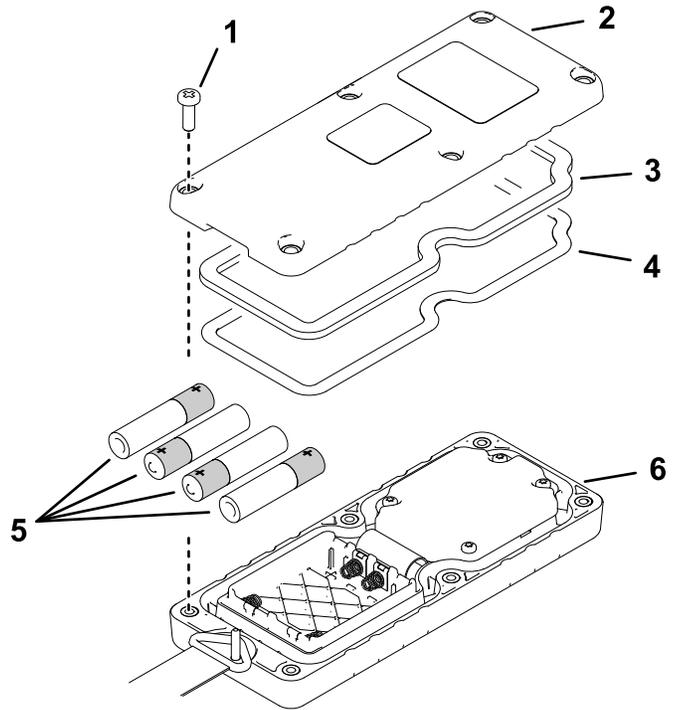

Figure 6
2. Plug each battery into a terminal cradle observing proper polarity (Figure 6).
3. Ensure that the steel gasket and rubber seal are seated in the channel in the remote and set the back cover in place (Figure 6).
4. Secure the cover with 6 screws (Figure 6) and torque them to 1.5 to 1.7 N·m (13 to 15 in-lb).